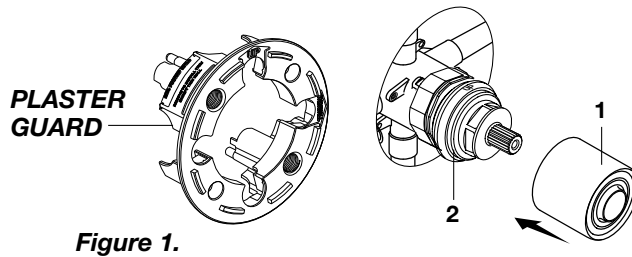

Figure 1.
☒ **Figure 1.** Remove plaster guard from valve. Push CAP (1) over VALVE CARTRIDGE (2) until seated against stop.